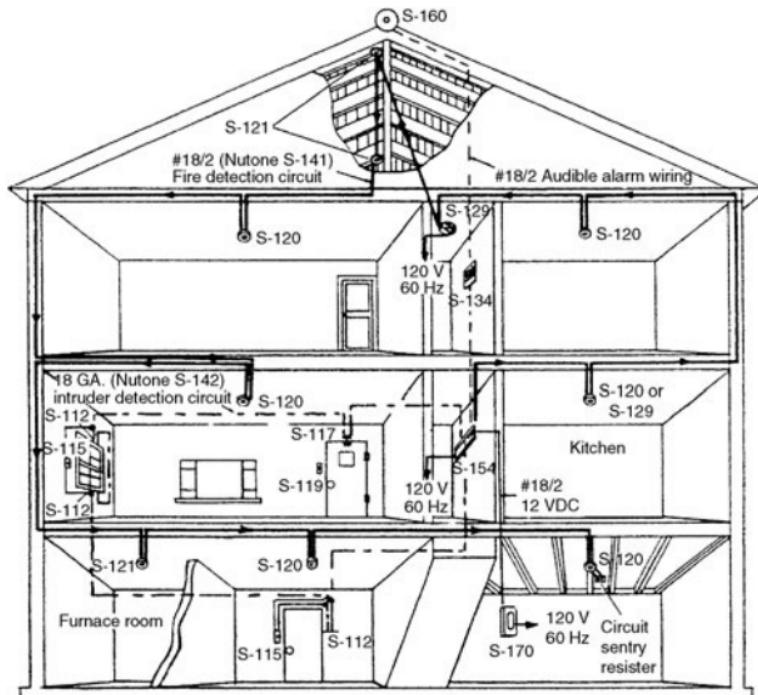
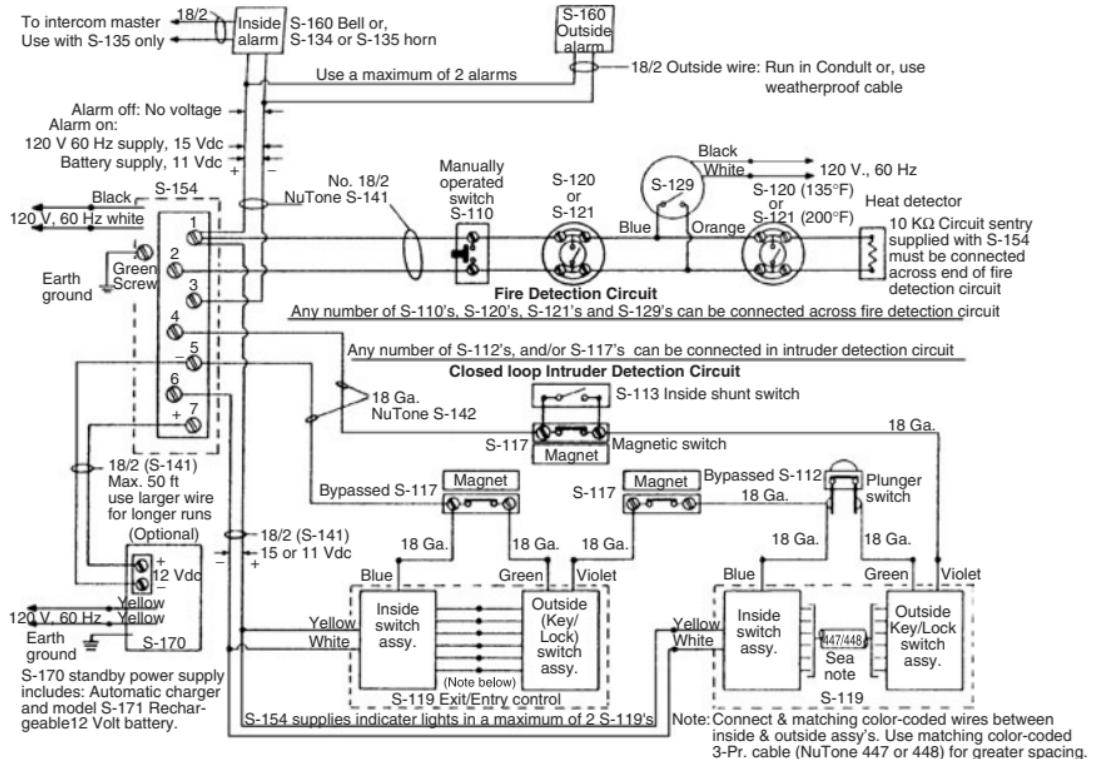

FIGURE 4-1. A typical hard-wired system with fire and security systems wired together (NuTone).
FIGURE 4-2. Wiring for a typical security or fire system.
In a typical hard-wired system, fire and security systems are wired together. Figure 4-1 shows the wiring diagram of a house with such a system. A detailed diagram of the wiring for the security or fire system is given in Figure 4-2. Notice the closed-loop intruder-detection circuit and how the switches work. Then examine the fire detection circuit and how it is wired into the system. Except for the 120-volt line to the power supply, the rest of the wiring is low voltage.
An inside shunt switch is used to bypass switches used in doors and windows. See Figure 4-9. This type of switch is surface-mounted and connected to bypass the entry detector switch, as previously shown in Figure 4-2.
**Warning Devices.** An alarm bell (see Figure 4-12) is a warning device. Surface-mounted units should be installed in a central area for greatest coverage throughout the house. The intercom can be connected so that the alarm is broadcast throughout the house when the speakers are on. Wiring to an outside bell should be hidden if possible. Wiring that is exposed should be run in a conduit, or a waterproof cable should be used. In the system illustrated, the alarm circuit to energize the bell is approximately 15-volts DC, with normal 120-volts AC supplied to the control unit. When there is no 120-volt supply, the emergency unit (e.g., an auxiliary power or battery charger) is in operation. This voltage will be about 11 volts from the battery. Therefore, any warning device, such as a bell, has to be able to operate on a 10- to 16-volt range See Figure 4-2.
**Auxiliary Power/Battery Charger.** A complete alarm system should have an auxiliary power source or battery charger so that the system can operate in situations where the normal 120-volt power supply is cut off. See Figure 4-2.